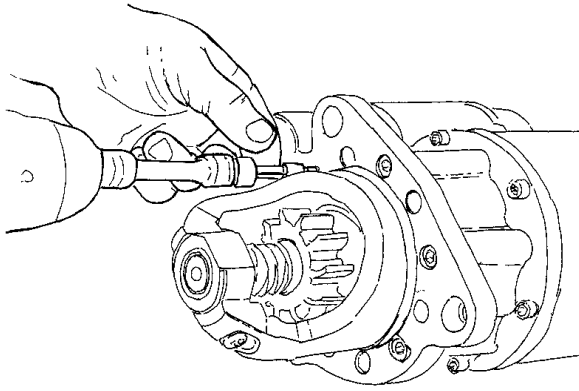

Figure 1 Remove Starter Motor Nose Cone Housing
4. Place the starter motor on a work bench and remove the nose cone housing mounting bolts (Figure 1) .